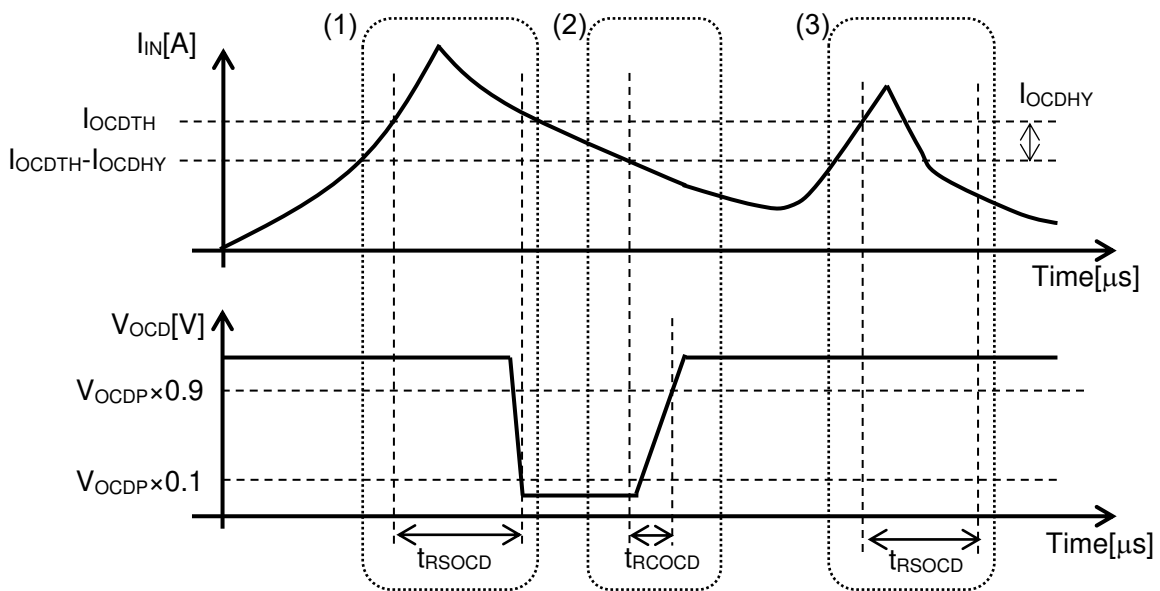

Figure 6. Overcurrent Detection Function of CZ-3AG5
**10.4. Overcurrent Detection Function is operated as below. (See figure 6.)**